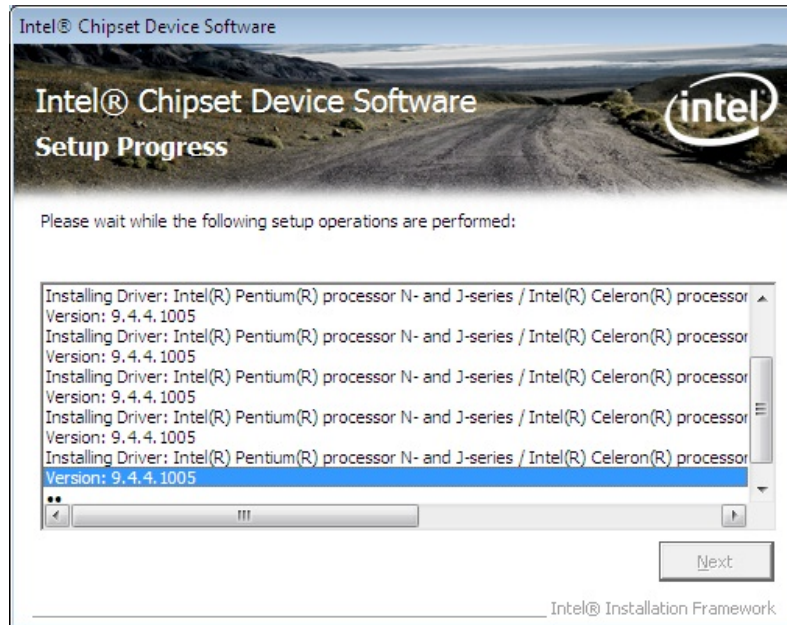

Figure 6-6: Chipset Driver Setup Operations
Step 9: **Setup Operations** are performed as shown in **Figure 6-6**.